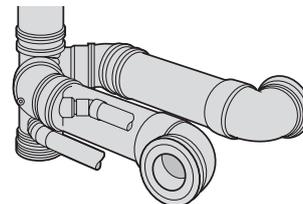

Fig.32a 106.490.12 Corner Boss Branch installation
106.490.22 Corner Boss Branch (socket outlet) (Fig.32a) OR 106.490.12 Corner Boss Branch (spigot outlet)
■ Use as Fig.32a with 135° bends. Can connect single or a range of WC's on each 110mm branch. Lower bosses can connect two 50mm waste pipes directly to sockets or 40 and 32mm pipes using appropriate reducers